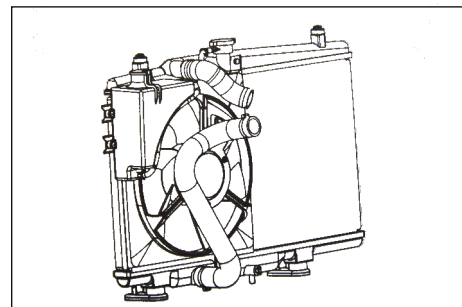

Figure 5-8
- (1) Open the radiator cover.
- (2) Open the water drain valve and discharge the coolant.
- (3) Disconnect the water inlet pipe of the radiator.
- (4) Disconnect the water outlet pipe of the radiator.
- (5) Disconnect the input pipe of the oil cooler of the automatic transmission (automatic transmission).
- (6) Disconnect the output pipe of the oil cooler of the automatic transmission (automatic transmission).
- (7) Remove 4 bolts of the radiator mounting support (see Figure 5-8).